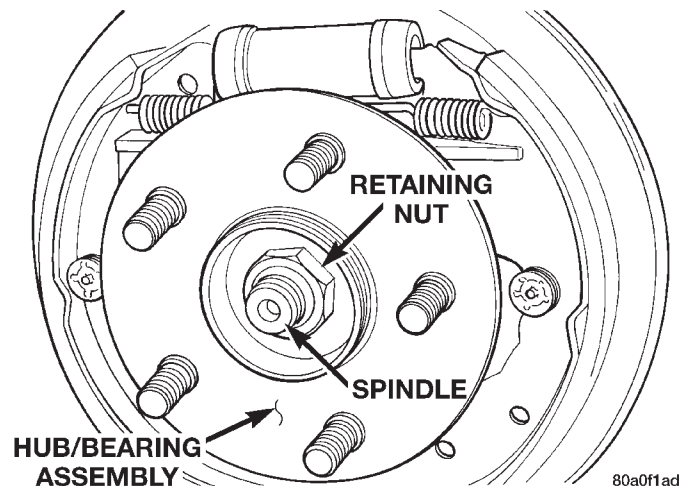

**Fig. 80 Hub/Bearing Assembly Retaining Nut**
(6) Remove hub/bearing assembly to rear spindle retaining nut (Fig. 80).
(7) Remove rear hub/bearing assembly from knuckle, by pulling it straight off the knuckle by hand.
(1) Install the hub/bearing assembly on the knuckle. Then install a **NEW** rear hub/bearing assembly retaining nut (Fig. 80). Tighten the hub/bearing assembly retaining nut to a torque of 250 N·m (185 ft. lbs.).